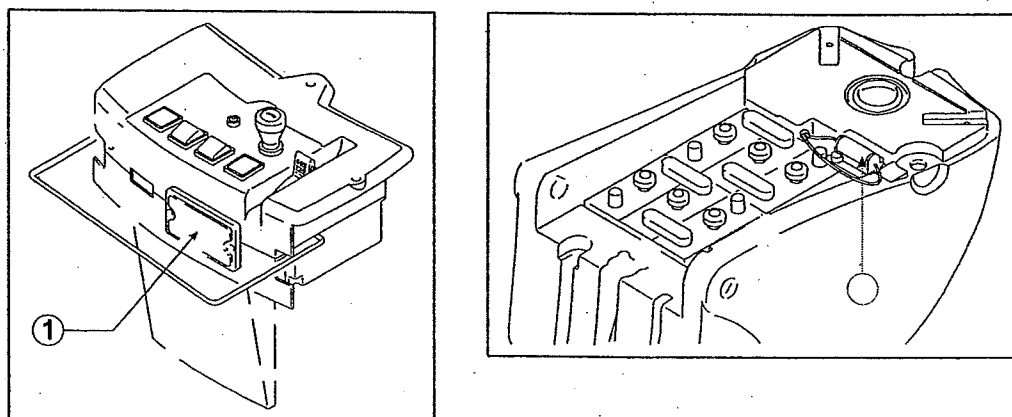

Fig. 14
- remove the fuse cover (fig. 14, ref. 1);
**Models with battery:** the 60A fuse, which protects the brush motor, is in the fuse-holder (fig. 14, ref. 2) that is fixed to the solution tank inside the battery compartment of the machine.